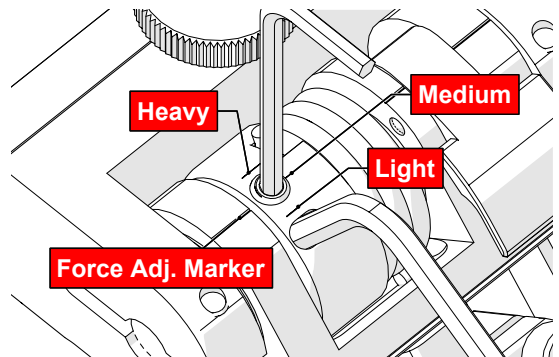

Fig. 211 - Choose desired tension
6. Gently apply pressure on the long leg of the 3 mm hex wrench until the force adjustment marker lines up with the desired spring tension. While keeping the markers in line, tighten the force adjustment screw (Fig. 211).